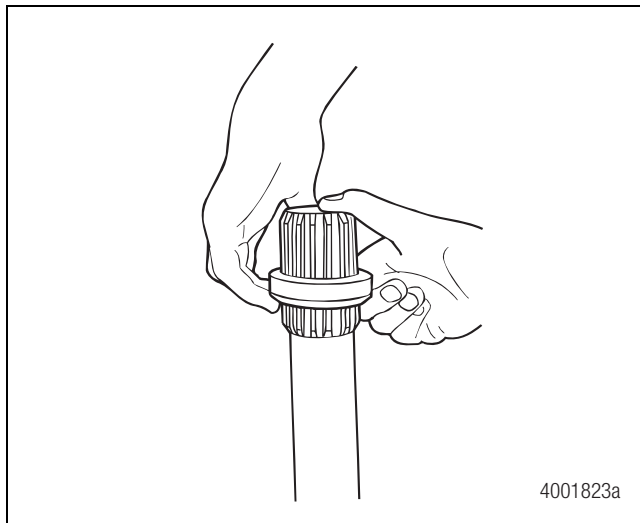

Figure 7.4
4. Remove the seal. Figure 7.4.